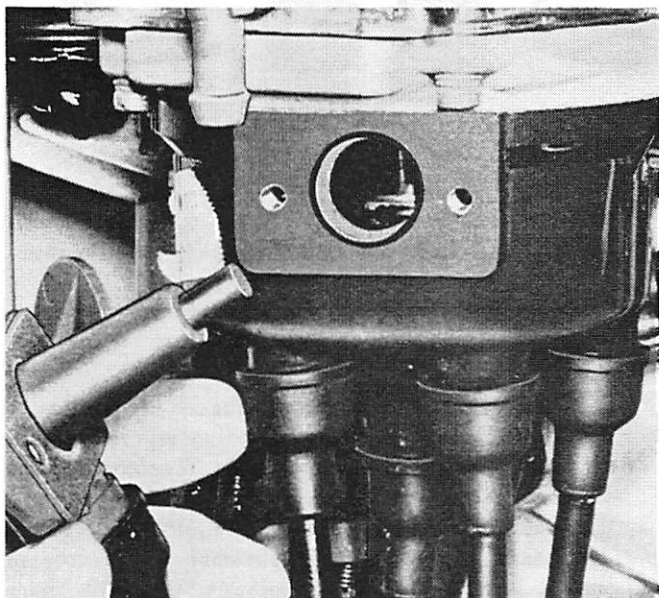

Figure 1. Removing Side Inlet
5. Remove distributor assembly (Figure 1) from engine.
1. Remove 2 screws which secure side inlet assembly to distributor cap and pull off side inlet assembly. (Figure 1)